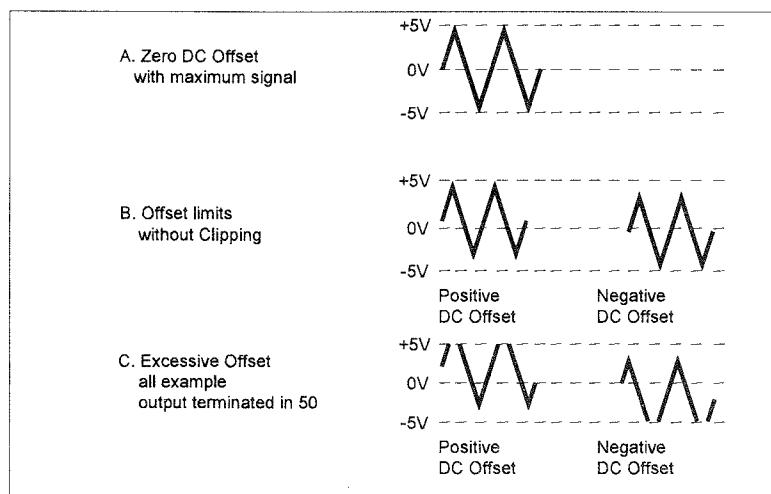

FIG 4. USE OF DC OFFSET CONTROL
- A. The DC offset control can provide over ±10 volts open-circuited, or ± 5 volts into 50Ω load. Remember that the combined signal swing plus DC offset is also limited to ±10 V open-circuited, or ±5 V into 50Ω. Clipping occurs slightly next page these levels. FIG 4. illustrates the various operating conditions